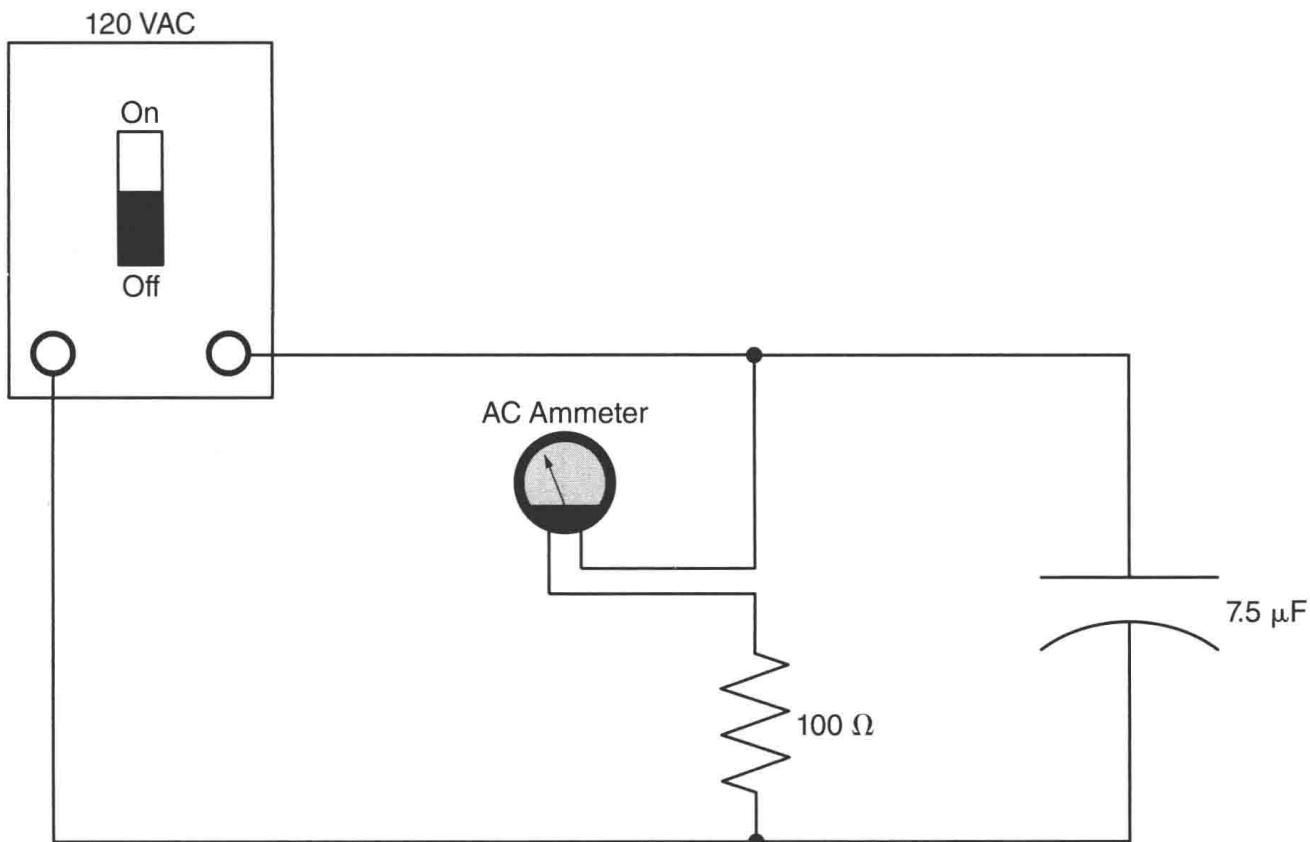

Figure 15-4 Measuring current through the resistive load.
9. Reconnect the circuit as shown in Figure 15-4.
20. Replace the 100 ohm resistor in the circuit with a 150 ohm resistor, and replace the 7.5 μF capacitor with a 25 μF capacitor. Reconnect the ammeter to measure the total circuit current as shown in Figure 15-4.
28. Reconnect the circuit to measure the current through the resistor as shown in Figure 15-4.